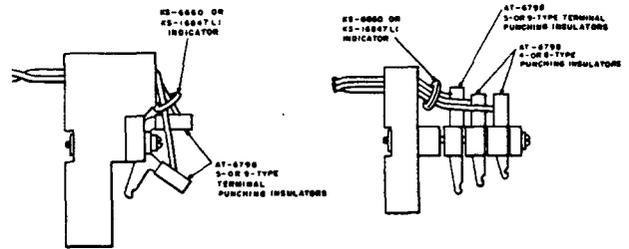

Figure 64—AT-6798 Binding Post and Terminal Punching Insulators
7.06 The AT-6798 binding post and terminal punching insulators (Figure 64) consist of cylindrical, rigid PVC tubes having a longitudinal slot the length of the tube. They are red in color.